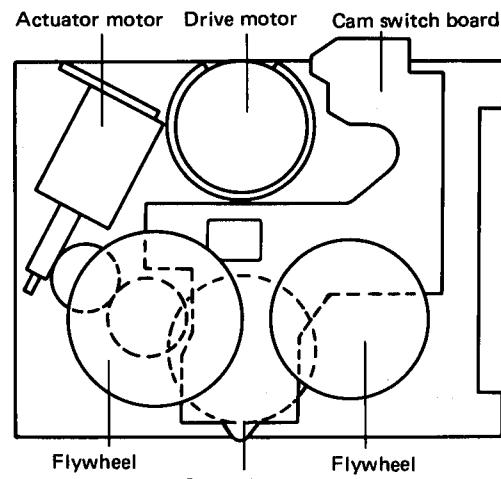
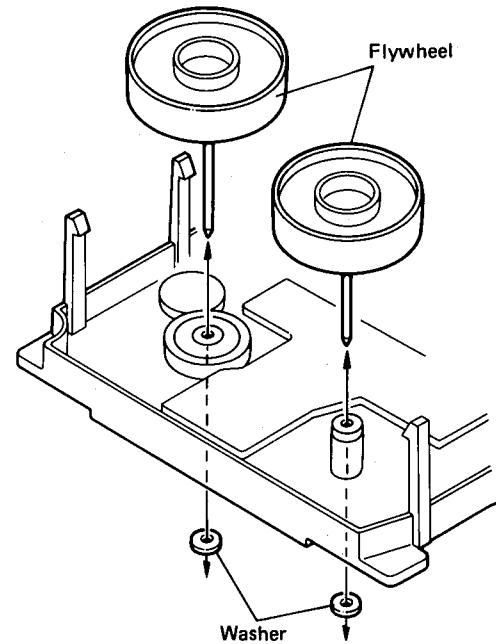
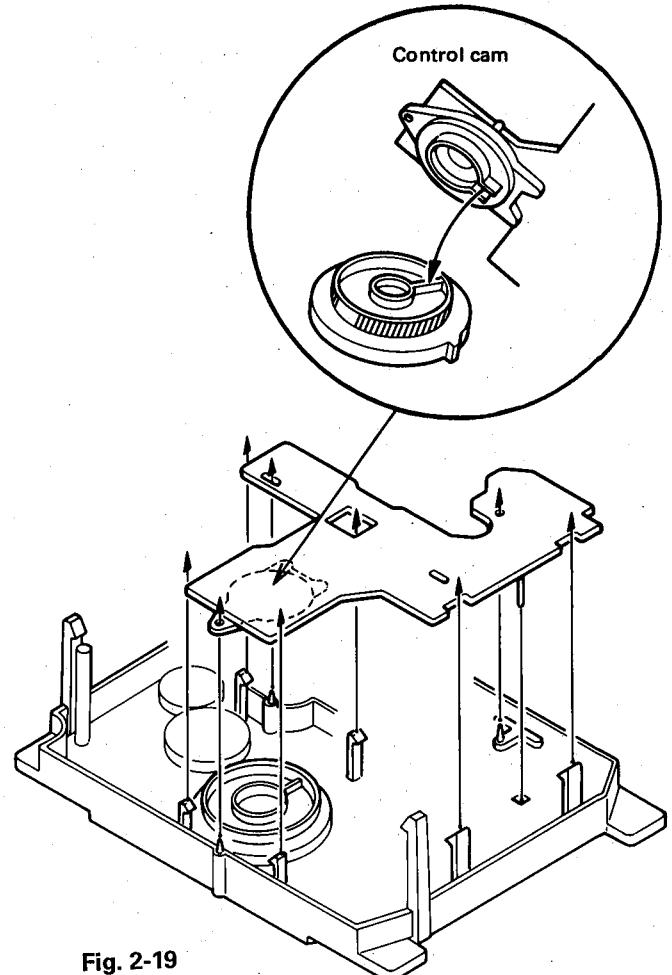
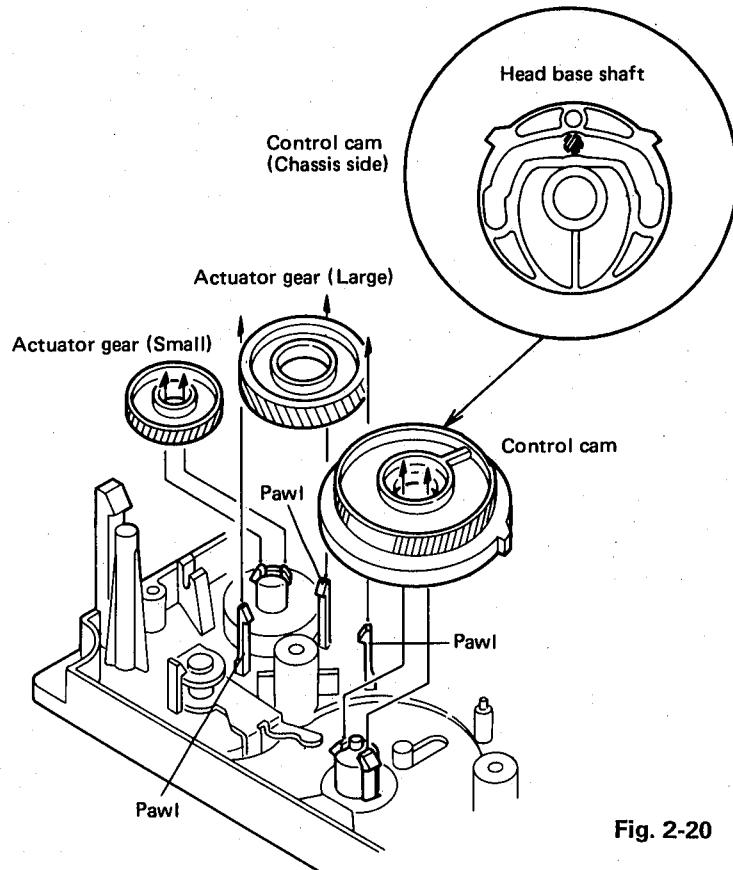

Fig. 2-16
Fig. 2-17
Fig. 2-19
Fig. 2-20
■ **Flywheel assembly (Fig. 2-16, Fig. 2-17)**
■ **Cam switch board** (Fig. 2-16, Fig. 2-19)
■ **Actuator gear (large)** (Fig. 2-16, Fig. 2-20)
■ **Control cam** (Fig. 2-16, Fig. 2-20)
■ **Actuator gear (small)** (Fig. 2-16, Fig. 2-20)